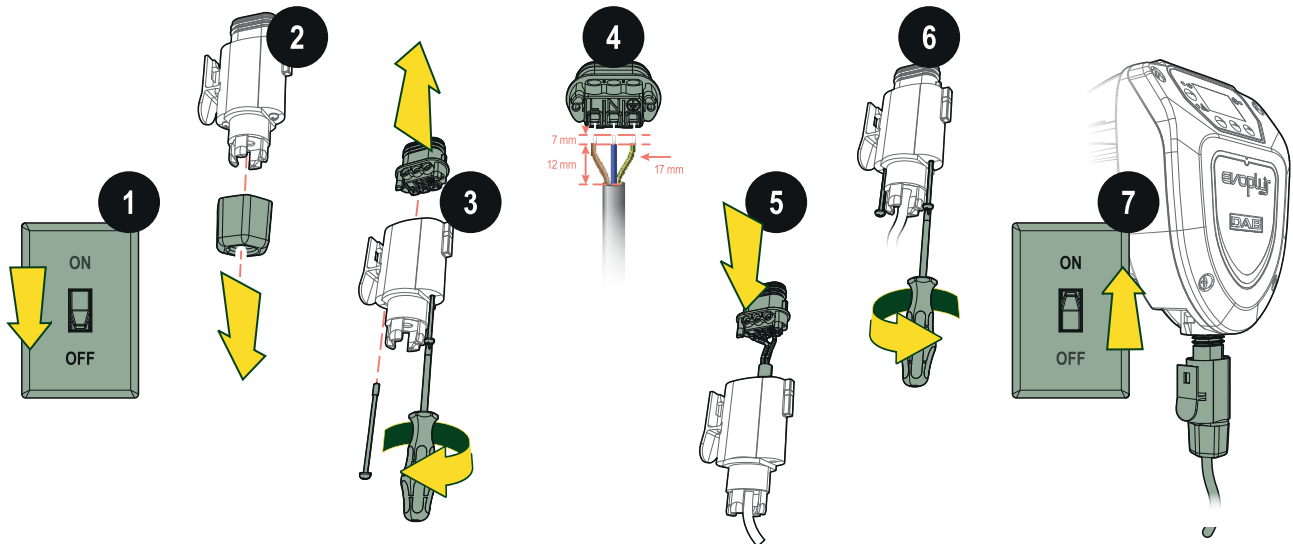

Figure 10
To connect the circulator, proceed as in *Figure 10*.
- 4 prepare the wires as shown in *Figure 10* and insert the cable through the cable gland. Connect the phase (L), neutral (N) and earth (PE y/g) wires to the terminal board; then tighten the three screws on the wires. Insert the wired terminal board in the cable gland, securing it with the side clips. Screw on the locking nut;